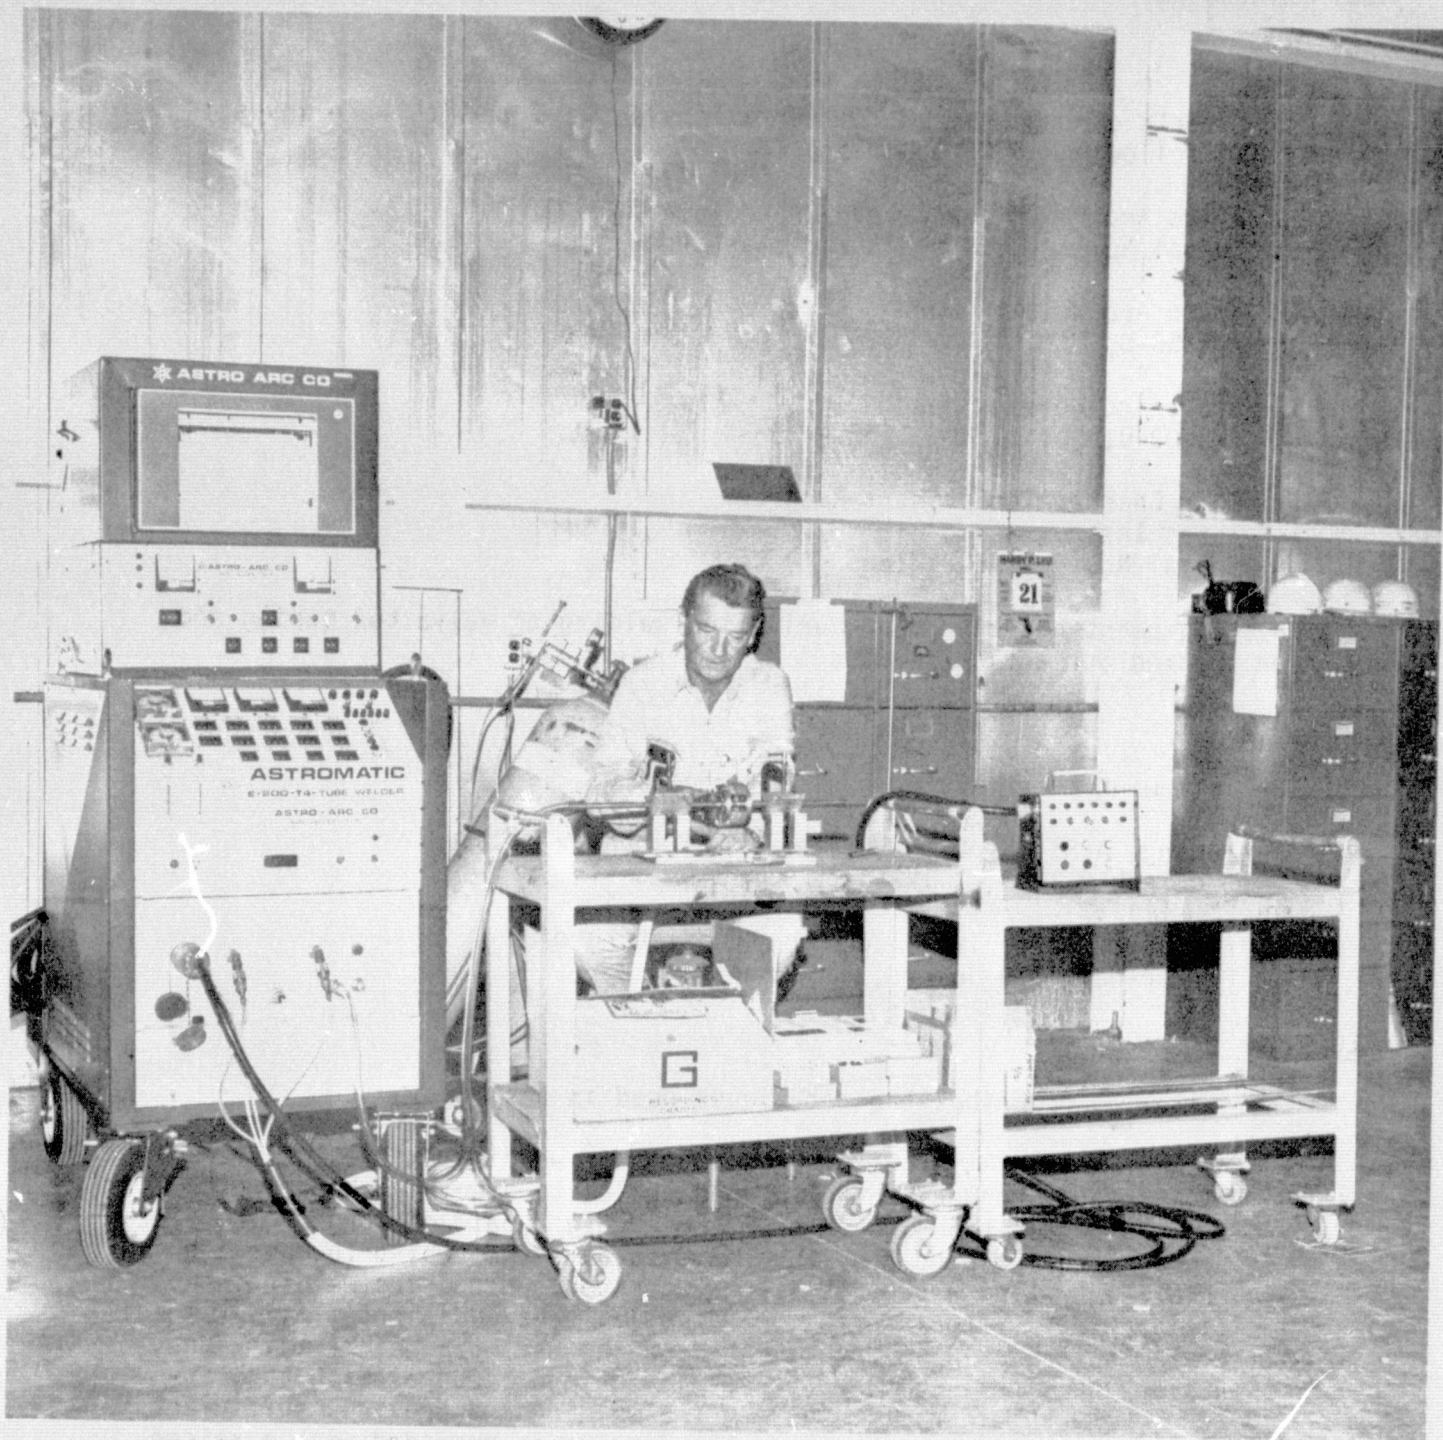
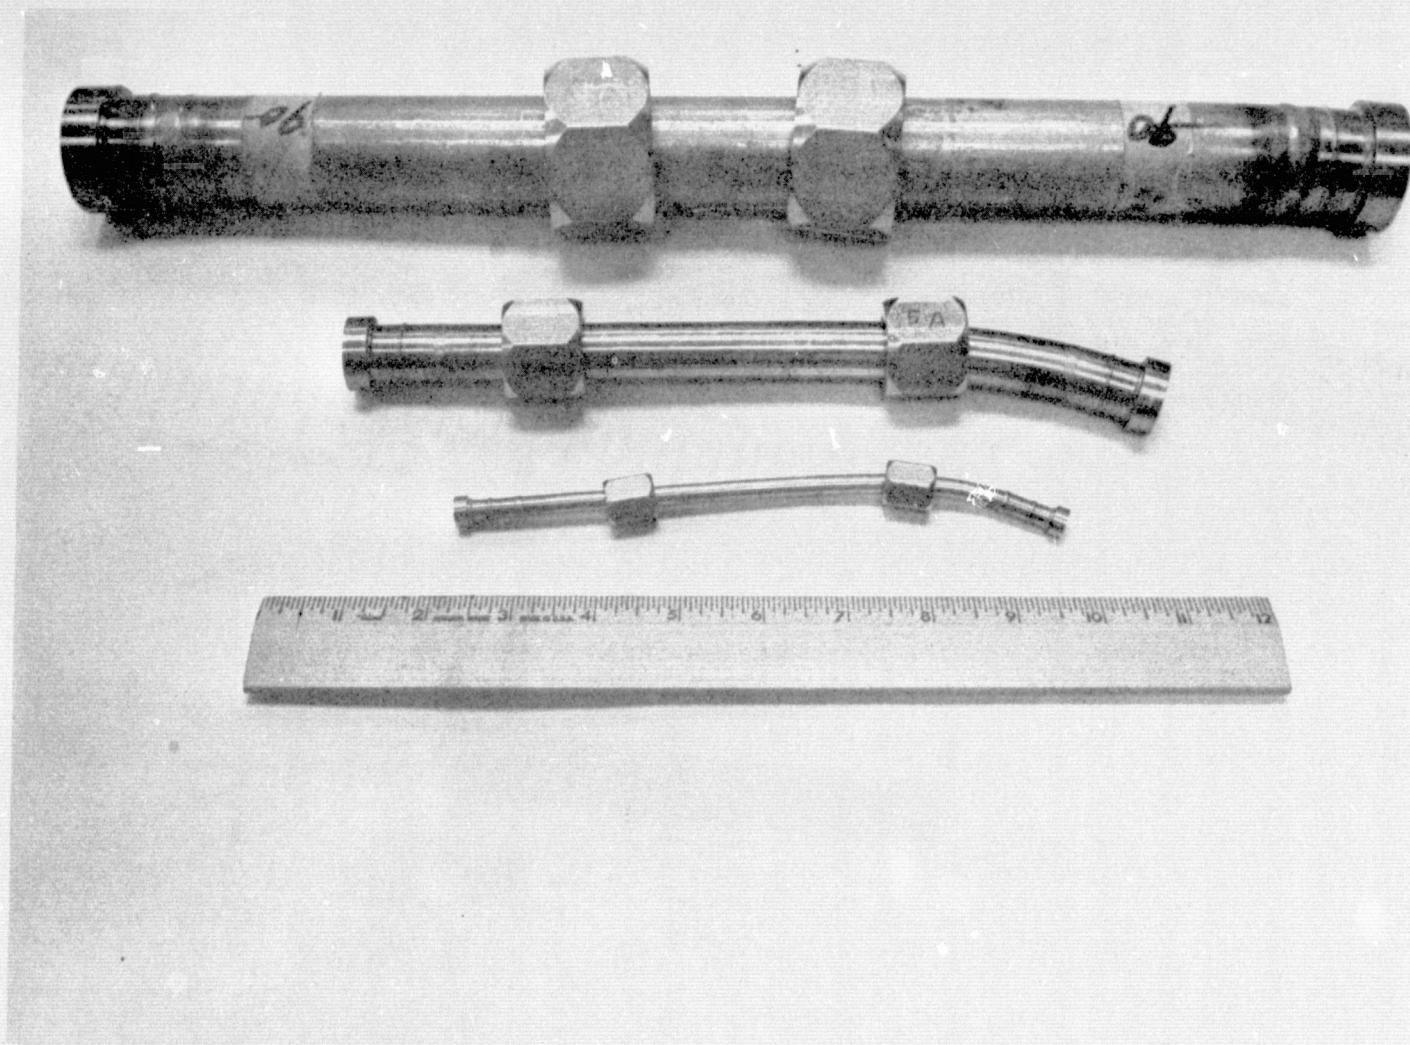
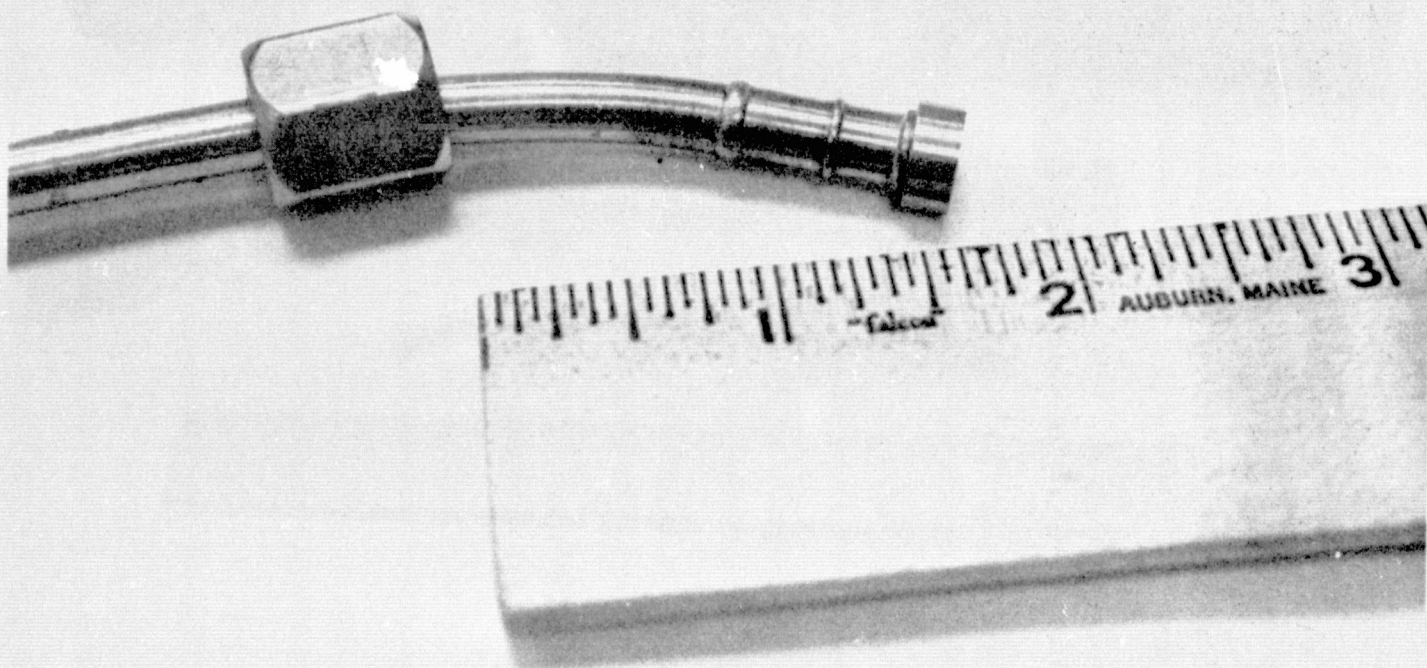

Figure 1. Machine Set Up to Weld Tubing
Figure 2. Tubing Specimens in 1/4, 3/4, and 1 1/2 Inch Sizes, Welded by the Automatic Process
Figure 3. Close-up View of the Weld in 1/4 Inch Size Tubing
1. Automatic Welding Process. The automatic welding process utilizes a power source connected by flexible cables to a welding head, which is clamped on the tube in a manner similar to a pair of tongs. The electrode of the welding head turns 360° around the tubing to make a butt weld. The welding process is gas tungsten, pulsed arc welding. No filler wire is fed into the weld puddle. The addition of filler metal to the weld puddle is accomplished by the use of a weld fitting that has an additional shoulder of metal machined integral with the fitting. The shoulder melts during the welding and provides sufficient additional metal to the weld. The fitting is provided with a raised ring that fits into a groove in the welding head and serves to guide the tungsten welding electrode around the tube and to maintain proper alignment during welding. A photograph of the machine, set up to weld tubing, is shown in Figure 1. A photograph of tubing specimens welded by the automatic process is shown in Figure 2. Closeup views are shown in Figures 3, 4, and 5.